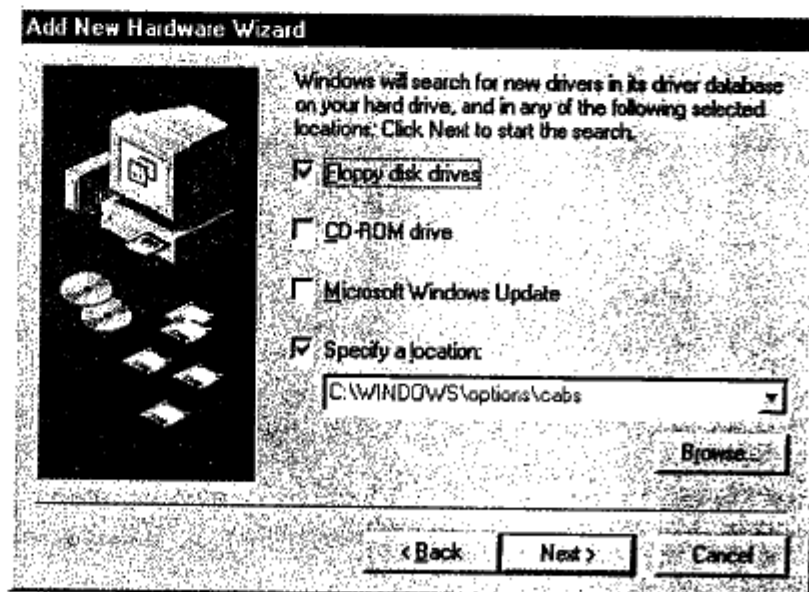

Figure 3-11
5. Insert the "SL-2000CD Driver & Utility" diskette into the floppy disk drive. Select "Floppy disk drives" as shown in Figure 3-11. Then click "Next".